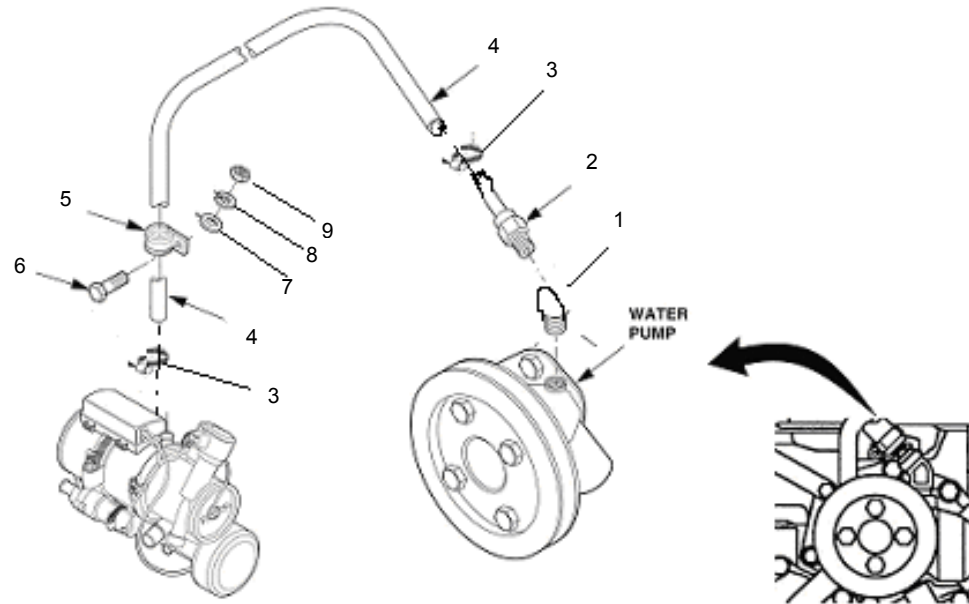

Figure 4-41. Coolant Outlet Hose Removal
10. Remove elbow $^{\circ}90$ (1), Figure 4-41, standoff (2), clamps (3), coolant hose (4), clamps (5), screw (6), flatwasher (7), lockwasher (8), and nut (9) from water pump and heater assembly. Replace new plug in water pump.